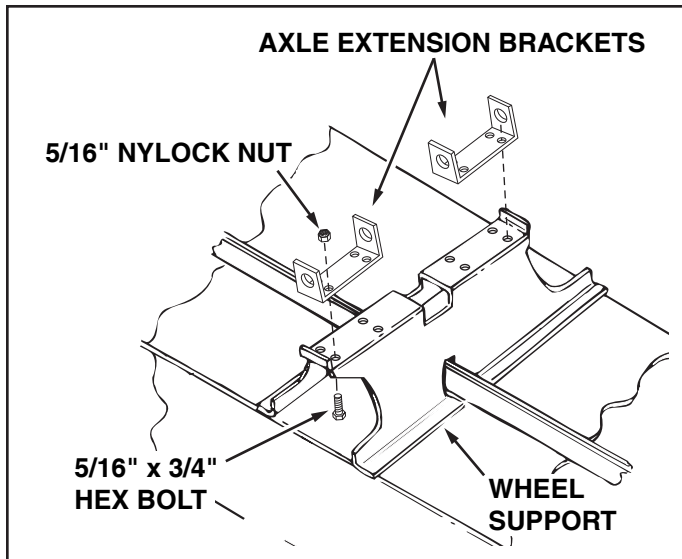

FIGURE 8
14. To prevent accidental tipping during the following assembly procedures, lower the cart to rest upside down on its top flanges, so that the wheel support is facing up. See figure 8.
15. Assemble both axle extension brackets to the wheel support using eight 5/16" x 3/4" hex bolts and 5/16" nylock nuts. See figure 8.